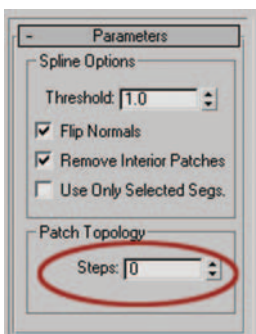

Figure 2.17 *Patch Topology set to 0.*
10. In the Modifier list, add a Surface modifier. With this step, you may need to adjust some of the parameter settings. I had to Flip Normals on my example. For this model we are going to set the Patch Topology steps to 0. Figure 2.17 shows the Patch Topology set to 0. We are using 0 as the value so that our model will have polygons that are exactly the same in size and number as our spline grid when we collapse to Editable Poly.